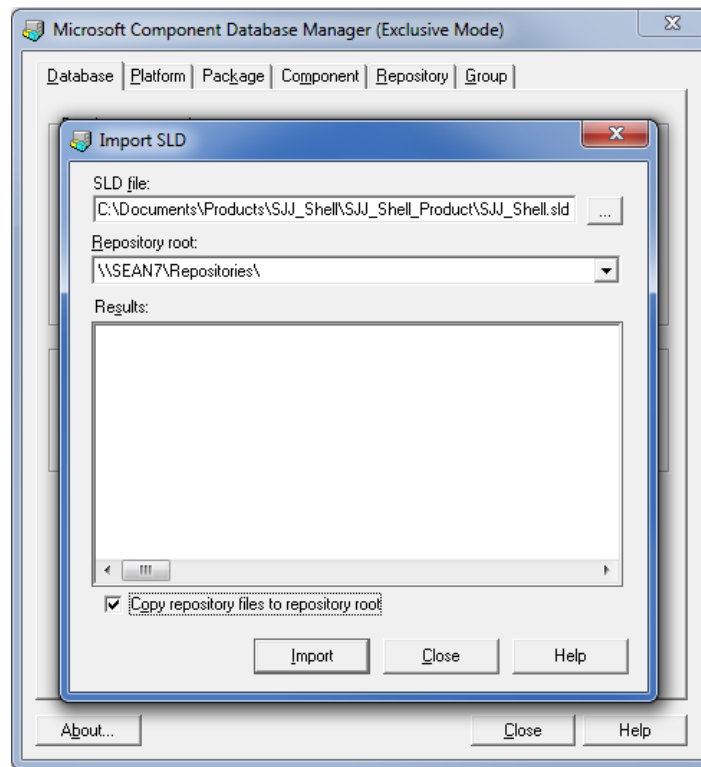

Figure 4-1 SJJ_Shell located
4. Locate the SJJ_Shell.sld file, Figure 4-1.